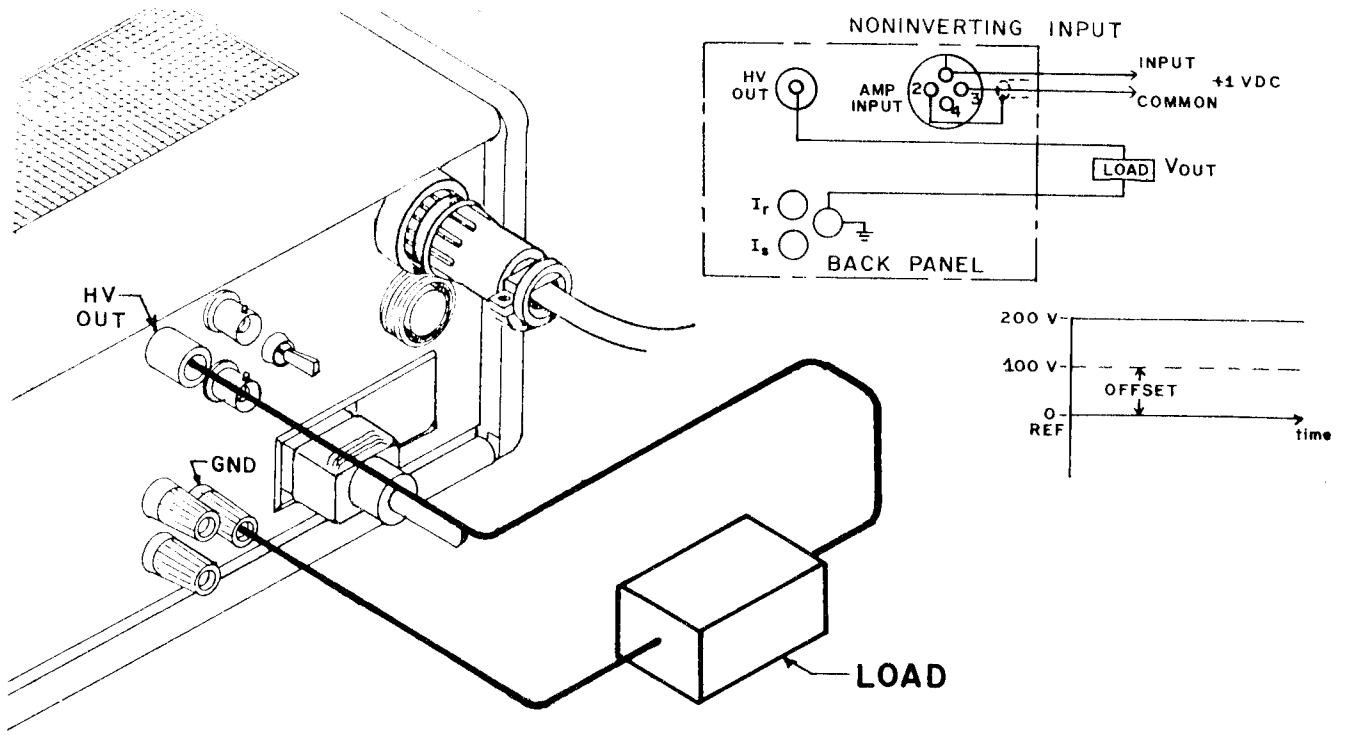

Figure 60. Example of Rear Panel Connections
b. At the rear panel, make the connections (see Figure 60):